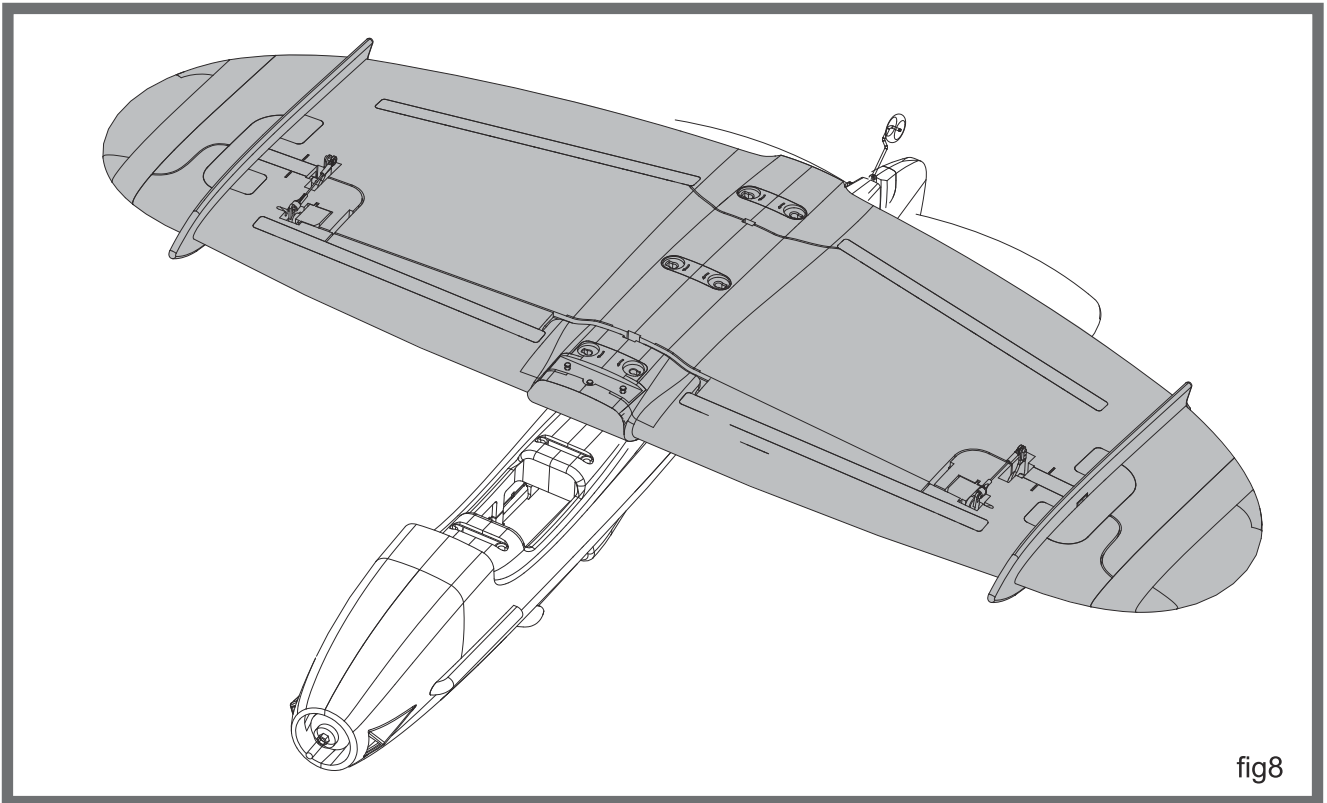

fig8
5. Attach the main wing to the fuselage making sure the servo leads are passed through to the battery compartment. Use the six twist and lock fasteners to secure the wing as shown(fig8 fig9)